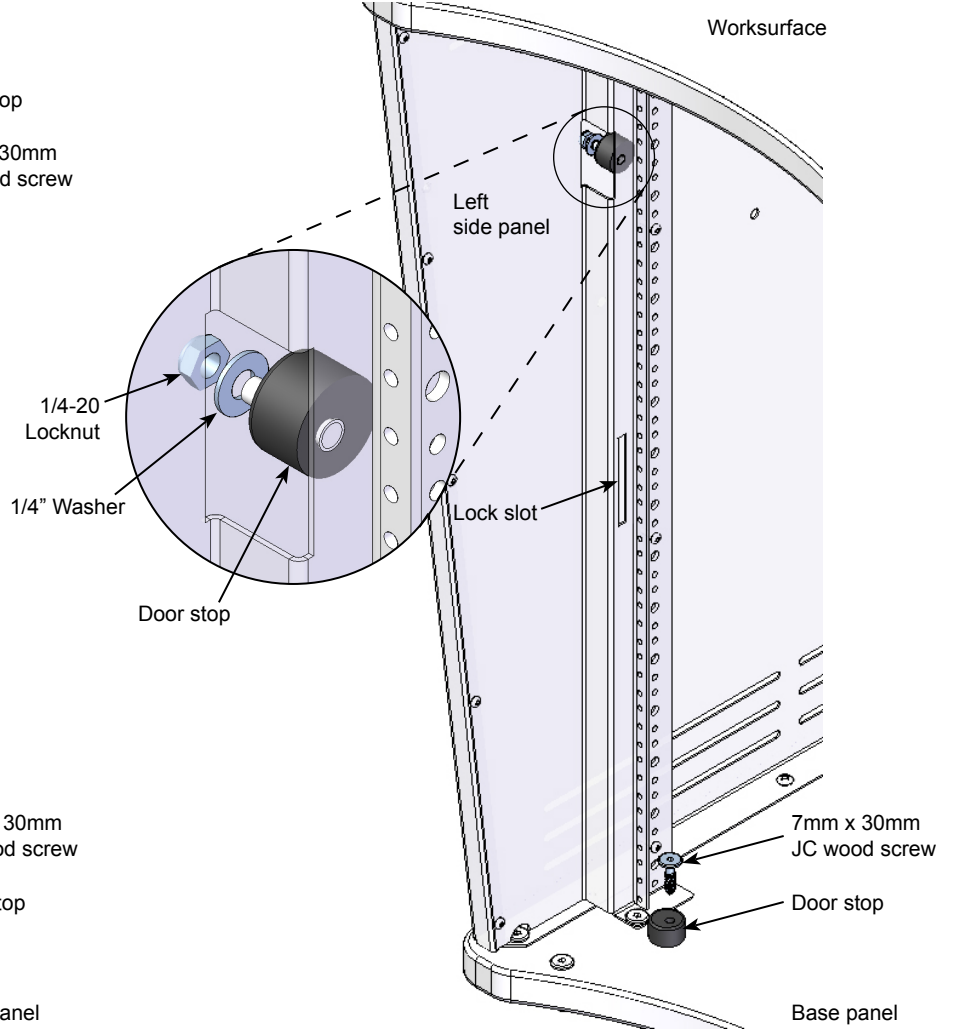

Figure 3B
1. On **42"H Inspiration lecterns**, open the door and install the upper door stop through the notch in the left side panel with a 1/4" washer and 1/4-20 locknut. **Figure 3B.**